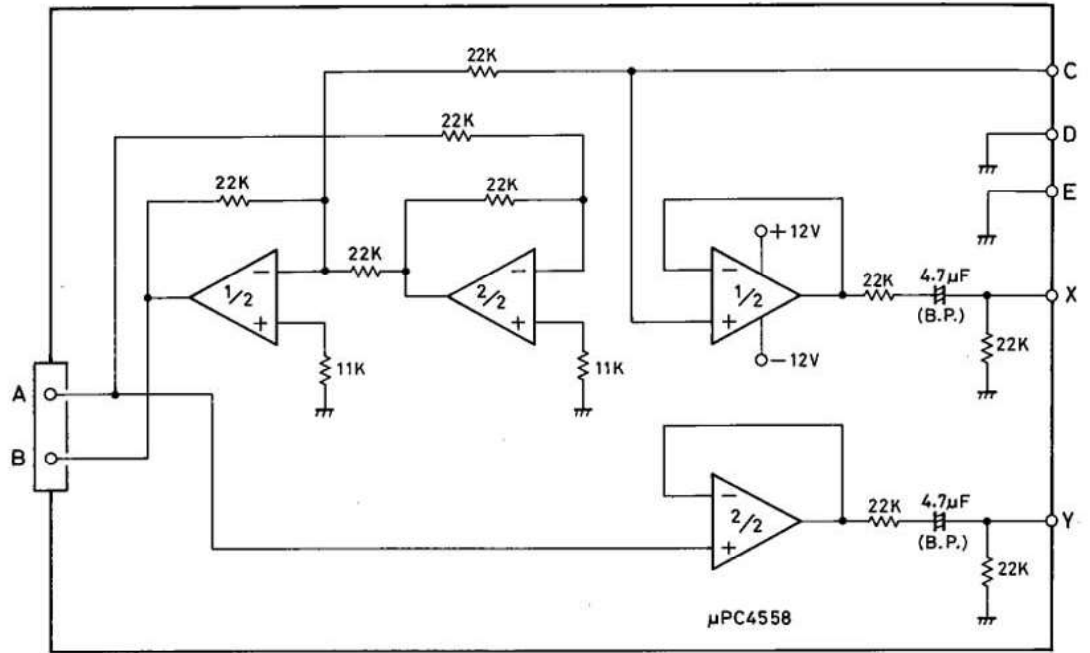
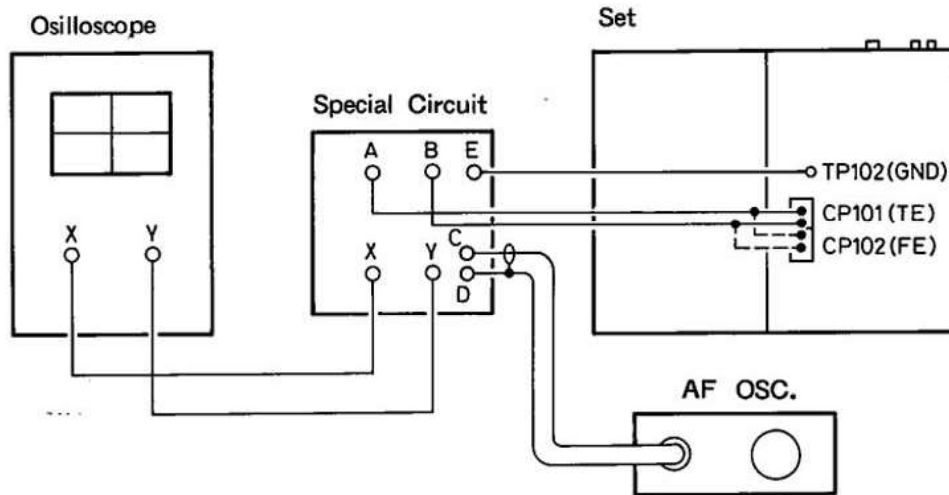

Figure 13
Figure 14
2. Connect oscilloscope, special circuit (Figure 13), AF-OSC and the set as shown Figure 14.